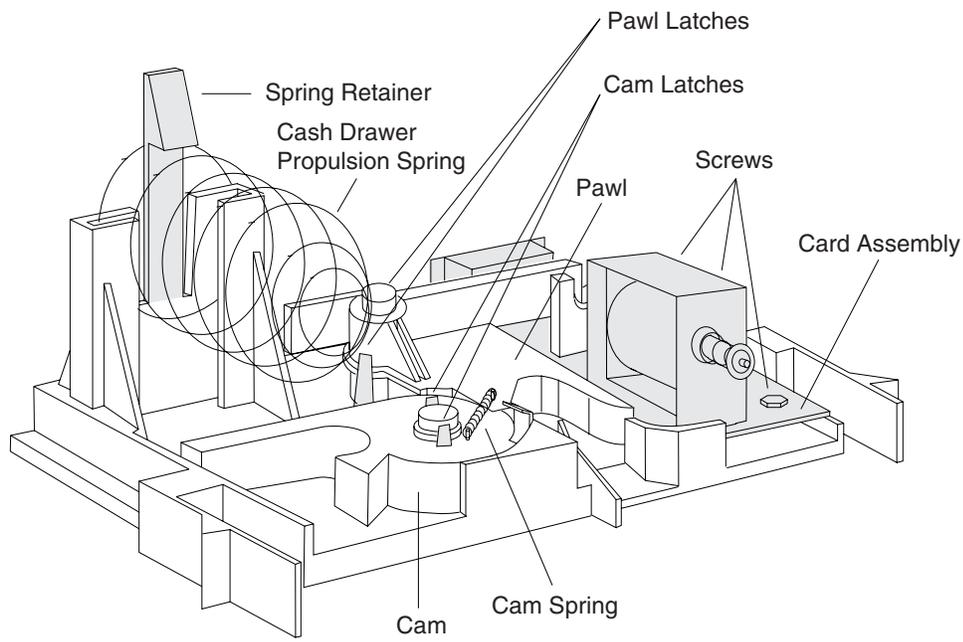

Figure 2-9. Removing and Replacing the Card Assembly and Cam
- 4 Remove the cash drawer propulsion spring by pushing the spring retainer and sliding the spring up out of its mounting slots. See Figure 2-9 on page 2-15.
- 4 Remove the cam spring. See Figure 2-9 on page 2-15.